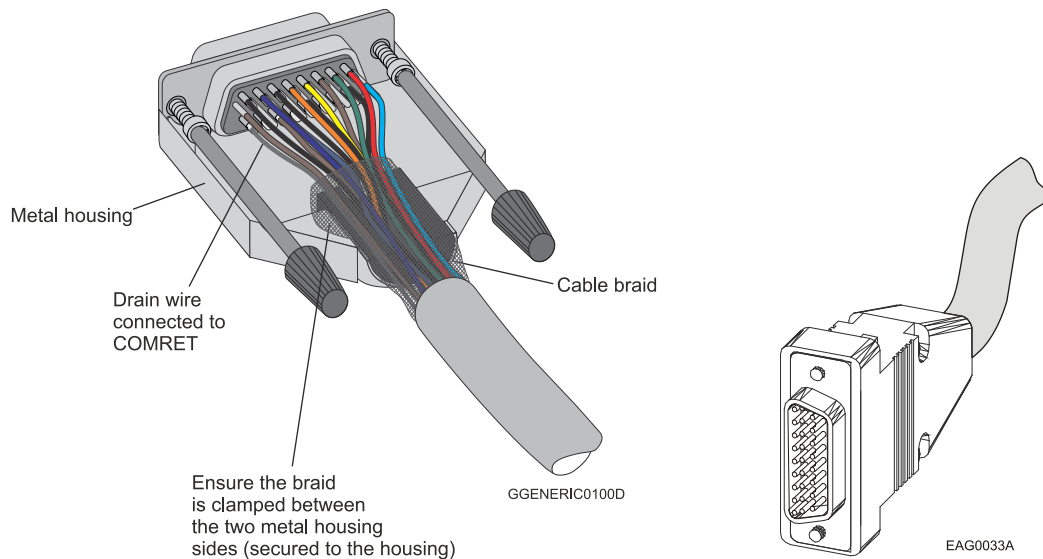

Figure 8: D-Type Cable Assemblies
5. Use only a D-Sub connector with a **metal housing** (Figure 8).
6. Make sure the braid shield is in tight contact with the metal housing of the D-type connector (Figure 8).